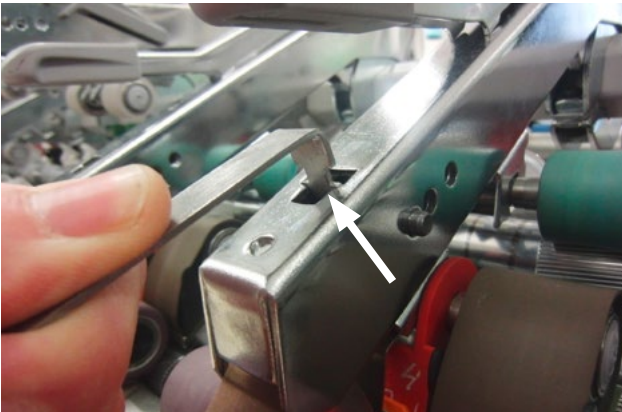

Fig. 10
- Insert the check gauge in the notch (Fig. 10).